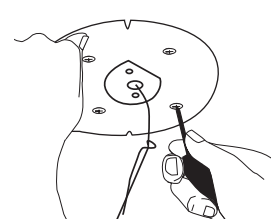

Figure 4
4. Use the 4 included screws to to secure the mounting plate to the ceiling (Figure 4).